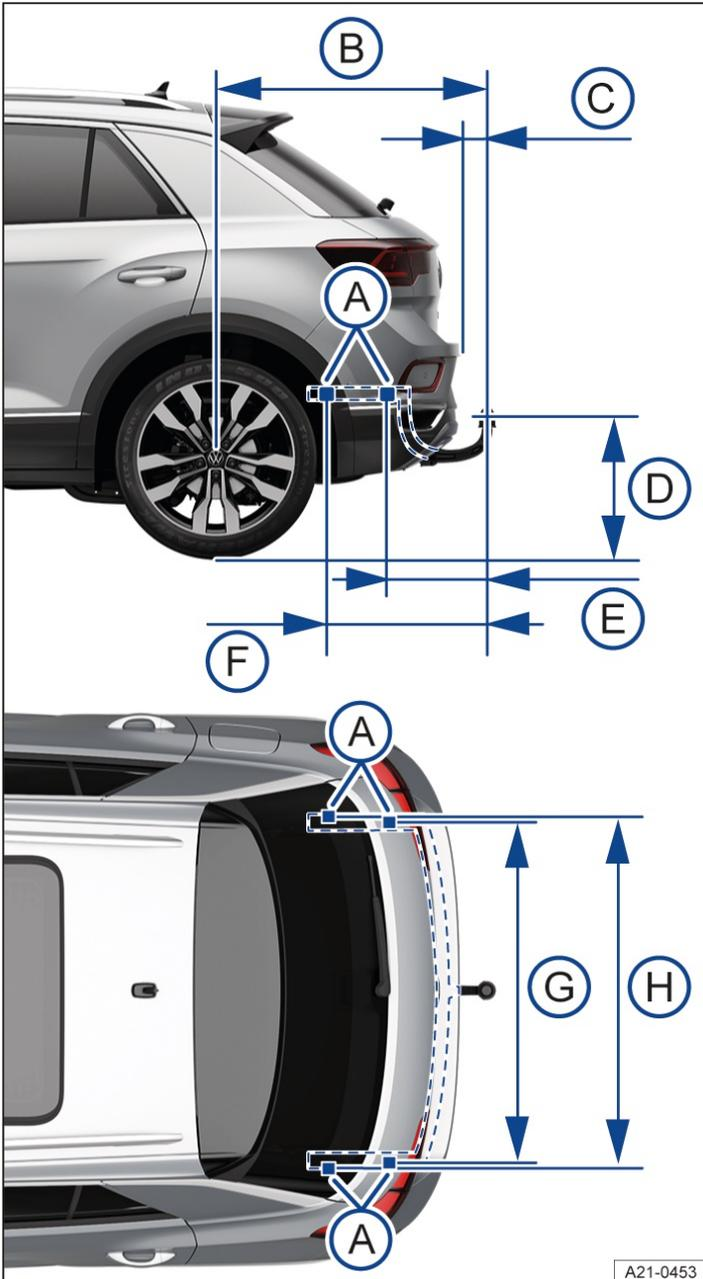

Fig. 1 Dimensions and mounting points for retrofitting a towing bracket.
The distance dimensions → Fig. 1 must be observed in all cases when retrofitting a towing bracket. Always observe the minimum distance given from the middle of the ball coupling (D) to the surface of the road. This also applies when the vehicle is fully laden, including maximum drawbar load.
- (A) Attachment points.
- (B) 893 mm (approx. 35.2 in)
- (C) at least 65 mm (approx. 2.6 in)
- (D) 350 to 420 mm (approx. 13.8 in to 16.6 in)